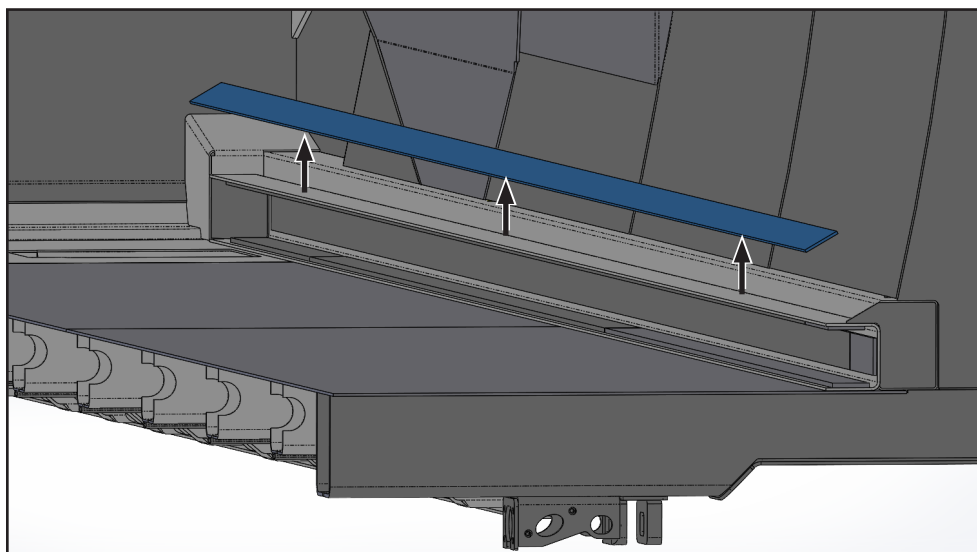

Figure 2
3. Grind the welds holding the top ejector track closeout in place (Figure 1 and Figure 2). Remove and discard this piece.